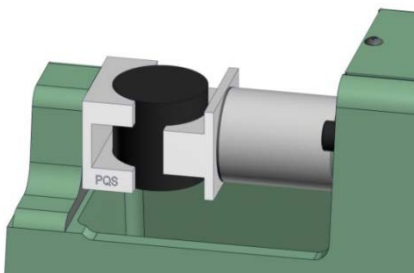

Figure 5.3.4
6. After the specimen breaks, the red Pressure Indicator Follower of the Low Pressure Gauge will display the maximum shear strength (σ_D in N/cm²). Remove the specimen from the Universal Strength Machine. The maximum indicated value divided by two on the outer scale is the shear strength (σ_S in N/cm²). See Figure 5.3.4 for test procedure.